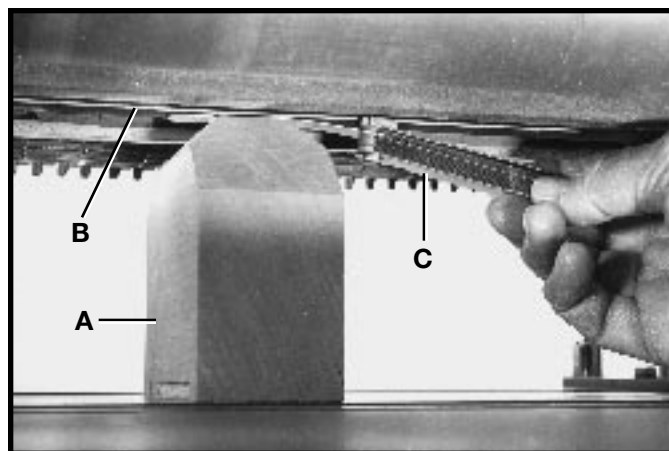

Fig. 43
3. Place gage block (A) Fig. 43, on the table, directly under cutterhead (B). Using a .030 feeler gage (C) placed on top of gage block (A), raise the table until the cutterhead knife just touches feeler gage (A) when the knife is at its lowest point. **NOTE:** Do not move the table any further until the adjustment is complete.